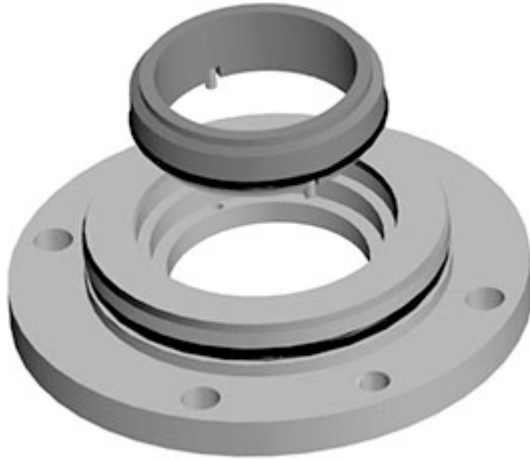

Figure 46: Mechanical seal seat and seal end cover (seal gland) assembly
10. Press the stationary mechanical seal seats, with anti-rotational pins inserted and O-ring attached, into both of the seal end covers. Lightly lubricate the Seal end cover to ease assembly. (see Figure 46)